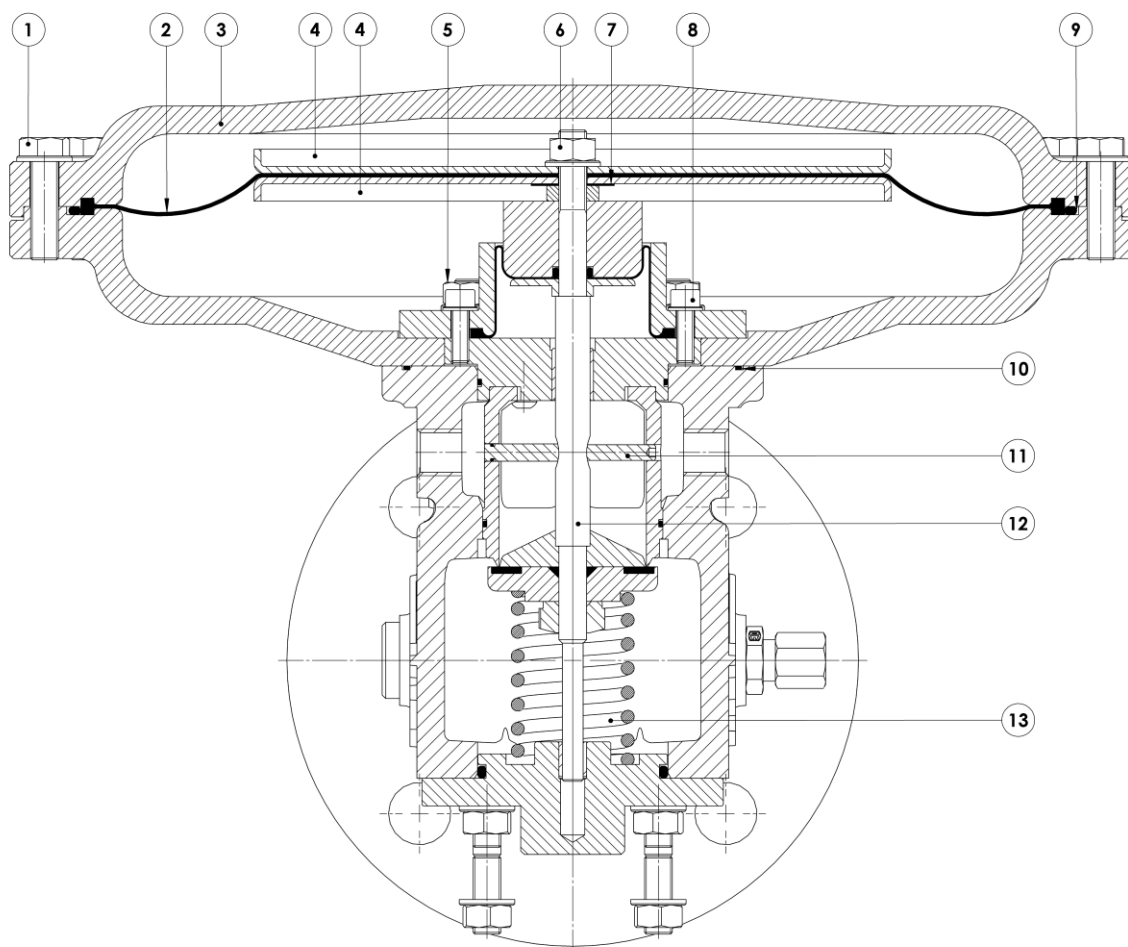

Figure 1
- 1x P90941 - O-ring for sealing diaphragm case parts (fig 1, pos. 9)
- 1x P92007 - Rubber ring for sealing diaphragm case (fig. 1, pos. 7)
- 1x P90937 - O-ring for sealing diaphragm case and regulator house (fig. 1, pos. 10)
Remove both the pilot pressure regulator and the levelling valve by loosening the pipe connections on the regulator. Unscrew all M8 bolts (1) evenly (see figure 1), do not remove the bolts and washers, but leave them in position allowing them to be removed simultaneously with the removal of the top diaphragm case (3). Put the diaphragm case away so that the bolts remain positioned in their holes. Dismantle the M8 nut (6) with its washer.
The locking shaft (11) should be positioned so that it aligns with both threaded holes in the side of the regulator housing (see figure 1). With the label on the insert facing the outlet side, this is ensured.